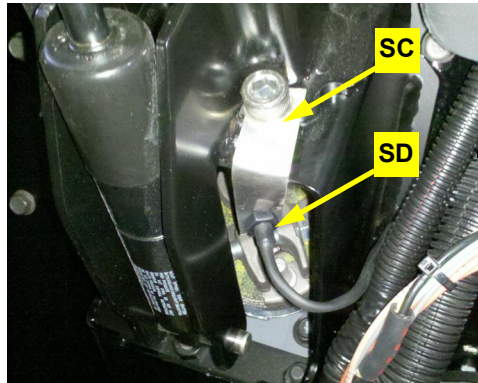

Figure 2b: Installed switch
- b. Locate the threaded bolt hole on the top of the left side sliding axle just outside the axle sleeve (when axle fully retracted). Using hardware **EN**, install link rod bracket **WL** with its back to the axle sleeve (so with its rod hole pointing outward - Figure 2b with inset).
Figure 2b with inset: WAS link rod mounting bracket installed
- Install switch SD in bracket SC (Figure 2b)